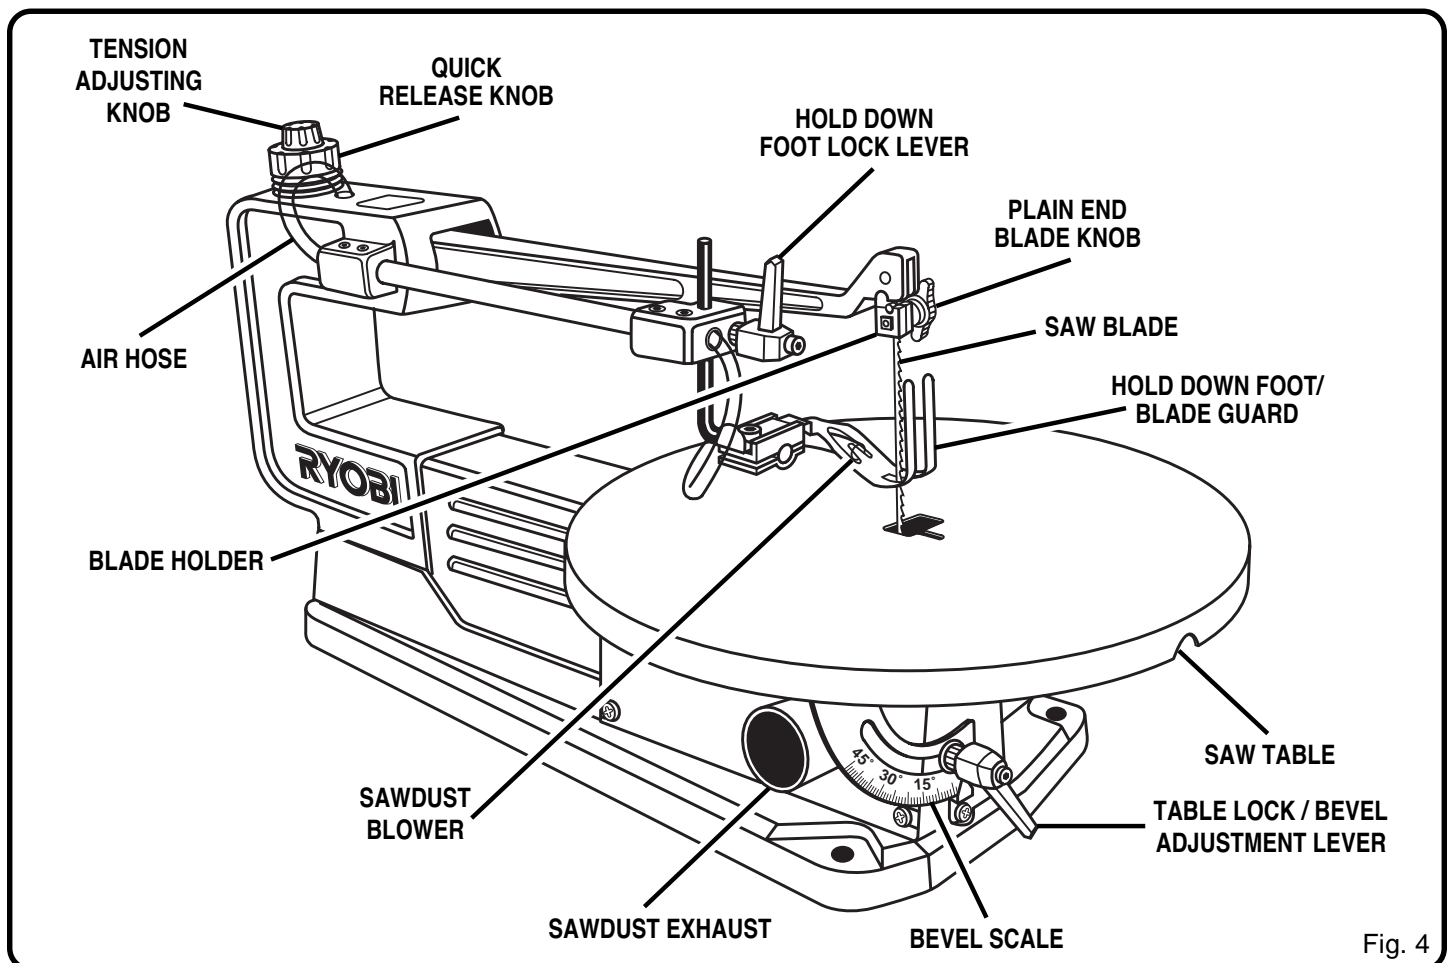

Fig. 4
- On the top back of the saw, rotate the quick release knob to the left or counterclockwise to loosen blade tension. See Figure 4.
- On the top back of the saw, rotate the quick release knob to the left or counterclockwise to loosen the blade tension. See Figure 4.